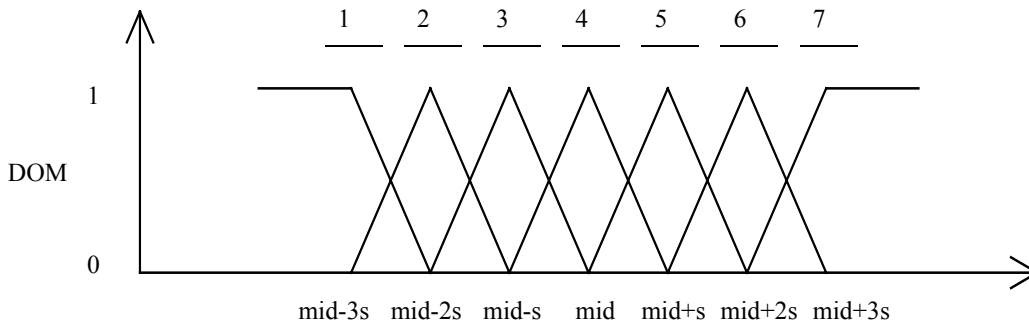

Figure 67 – Shape and Numbering Scheme for Inputs and Outputs using the Fuzzy Statement
The first item to be addressed is the Fuzzy variable list. In all there are 106 integer values which are required for the Fuzzy Logic processing using the *FUZZY* statement. The 106 integers consist of the midpoint and sensitivity values for INPUT1, INPUT2, OUTPUT1, and OUTPUT2, and the 49 rules for each output. For clarification on the midpoint and sensitivity values see Figure 67 which shows the shape and numbering scheme for the membership functions for inputs and outputs. The seven (7) fuzzy sets will always be labeled 1 through 7 with 1 being left-most and 7 right-most. In the division of the inputs and outputs these may be labeled by you as NEGATIVE LARGE, NEGATIVE MEDIUM, etc. However, for processing purposes these are given numerical values. Additionally, as described in Figure 67, all fuzzy sets are triangular in shape and symmetric about the midpoint. Membership functions of this shape give the additional advantage of only requiring the mid-point and the distance between triangles (sensitivity) to fully describe the function.